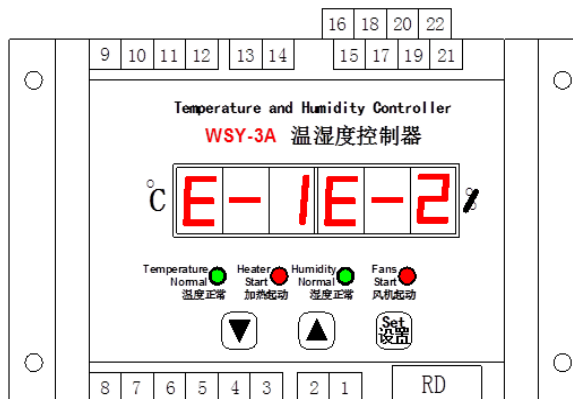

Figure 8
- ◆ If the digital tube displays as shown in the figure (see Figure 8), it indicates that the temperature transmitter and humidity transmitter are abnormal. Please check if the transmitter or wiring is normal.